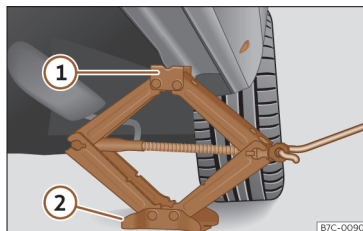

Fig. 186 Crossbar: mounting the jack on the vehicle.
- Turn the jack crank handle, located below the strut support point, to raise it until the tab **①** >>> **Fig. 186** is below the housing that is provided.
- Align the jack so that the tab **①** “grips” onto the housing provided on the cross member and the mobile base **②** is resting on the ground. The base plate **②** should fall vertically with respect to the support point **①**.